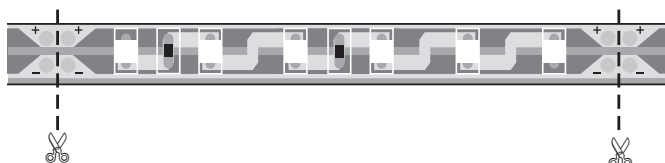

Figure 1
2. Shorten LED board if necessary (Fig. 1).
LED boards can be disconnected in each case after **six** LEDs (50 mm) (Fig. 1).